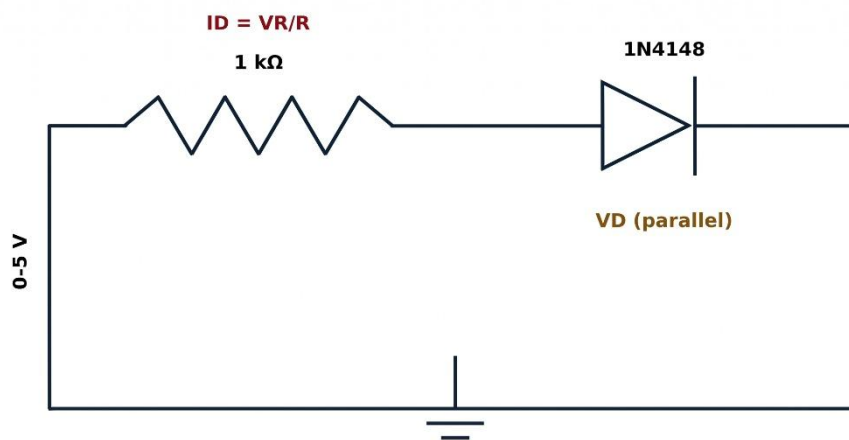

Figure 1. Forward-bias circuit. Measure current from resistor voltage to avoid moving the DMM into series for every point.
3. Build Figure 1 with the supply off. Ask for a connection check.